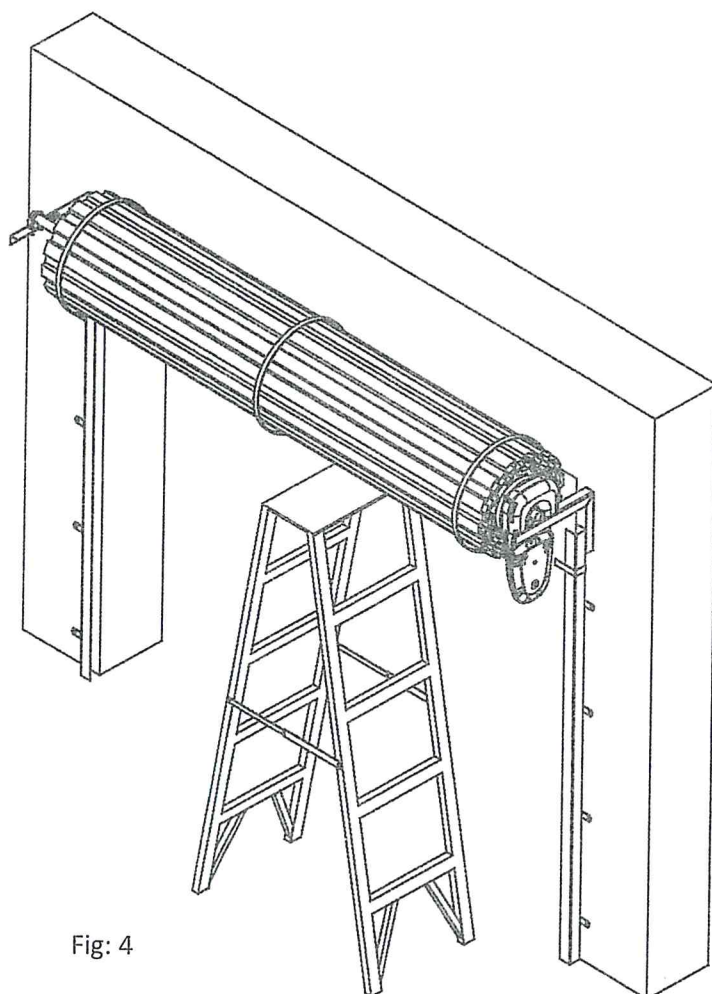

Fig: 4
h) Replace right hand side wall mount bracket (Fig 4)